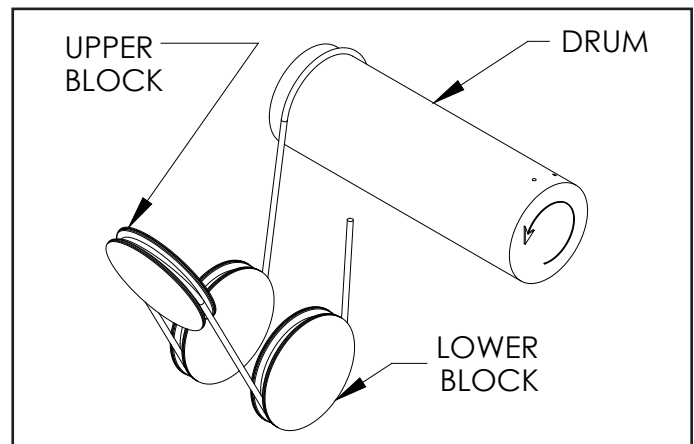

Figure 5-5. Reeving Diagram - 4 Part Single Reeved.
b) Before removing the old rope, refer to reeving diagram, Figure 5-5. To assist with re-reeving your hoist, refer to the reeving diagram and corresponding paragraph that describes the reeving procedure.
(5) With outer lower block covers removed, thread the wire rope through the sheaves of the upper and lower block as shown in Figure 5-5.
(6) Attach swaged rope end to the dead end anchor pin and fasten with either the new cotter pin provided with the rope ("B" & "C" Frame) or the retaining rings provided with the hoist ("D" Frame).
(7) Replace the lower block sheave covers.
(8) Lubricate cable per Paragraph 4-3.